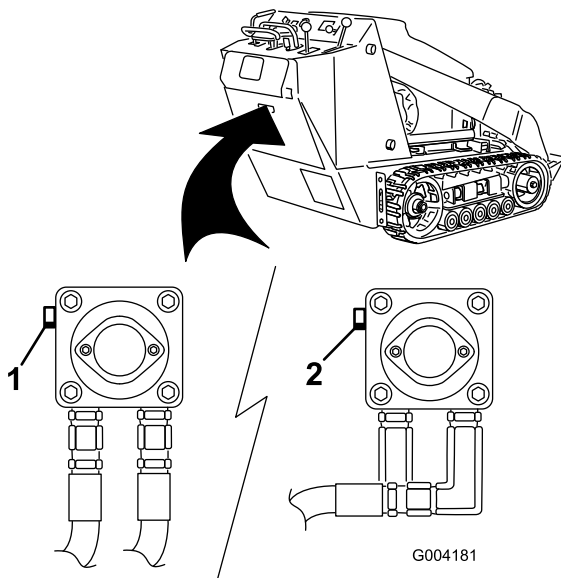

Figure 21
3. Using a wrench, turn the tow valves on the hydraulic pumps twice counter-clockwise (Figure 21).